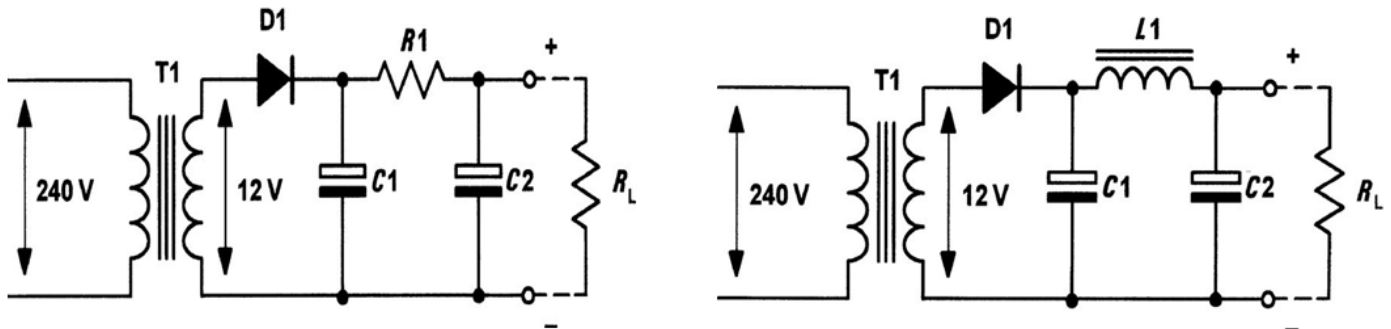

Fig 1.5: (a) Half wave rectifier with R-C smoothing filter (b) Half wave rectifier with L-C smoothing filter
- Figure 1.5 shows half wave rectifier's circuit with smoothing filters.